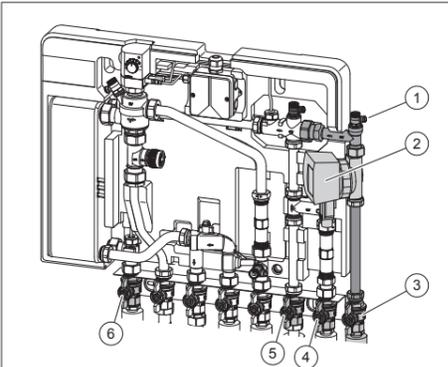

Fig. 2: Installation of the high-efficiency pump
(1)	Venting valve
(2)	High-efficiency pump Wilo STAR-Z NOVA
(3)	Ball valve circulation pipe
(4)	Ball valve cold water supply
(5)	Ball valve cold water outlet
(6)	Ball valve hot water outlet
- Close the ball valves (3), (4), (5) and (6) (see Fig. 2).
- Open the venting valve to depressurise the section of the system (see Fig. 2 (1)).
i The arrow on the body indicates the flow direction. Install the pump in such a way that the arrows points to the venting valve (see Fig. 2 (1)).